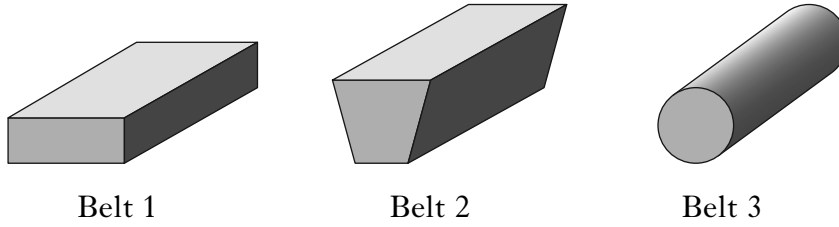

Figure Q7(b)
The three belts shown in Figure Q7(b) were considered.
- (c) (i) State, with reference to Figure Q7(b), which belt would be used to reduce the amount of slippage in the drive system.